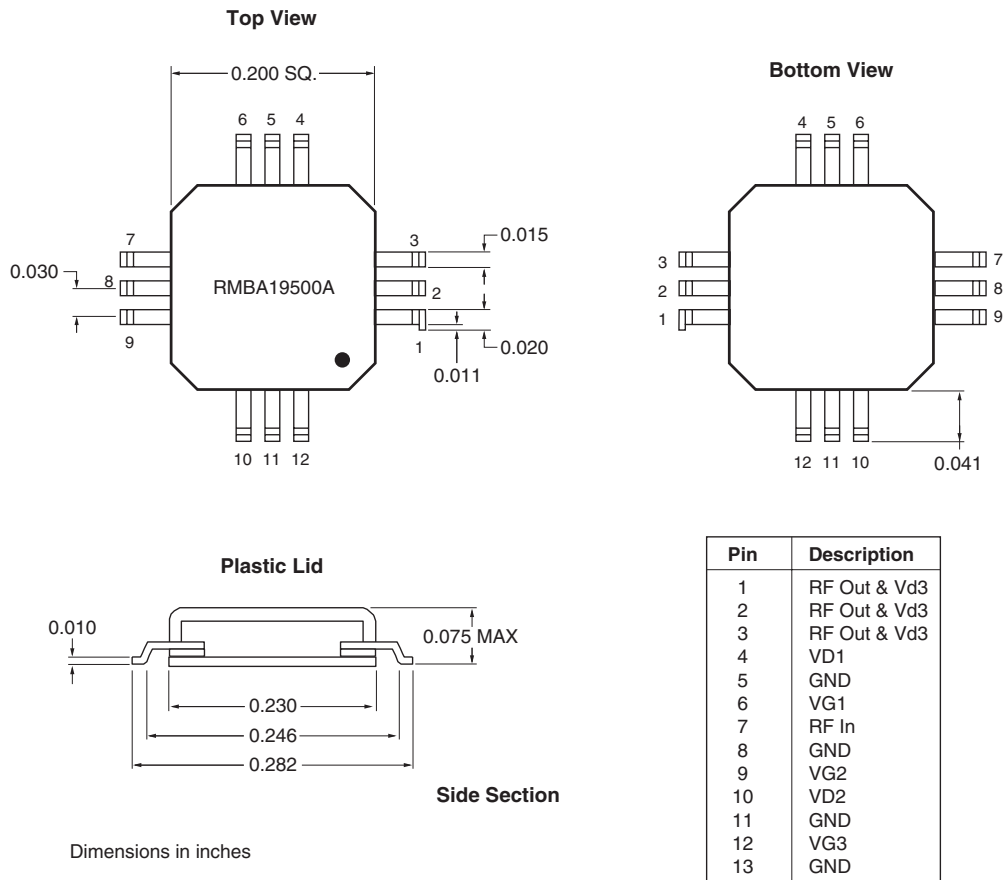
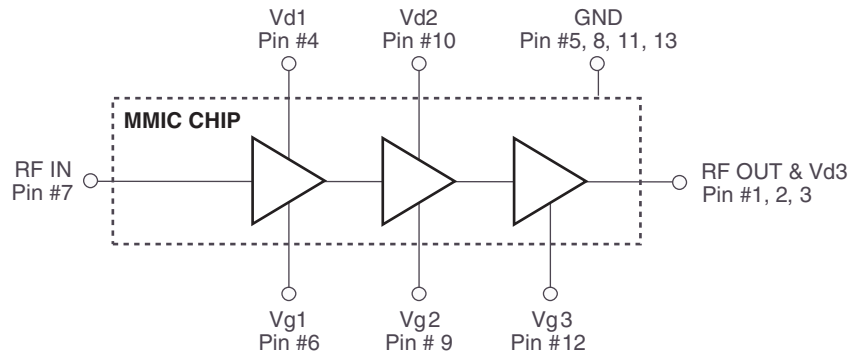
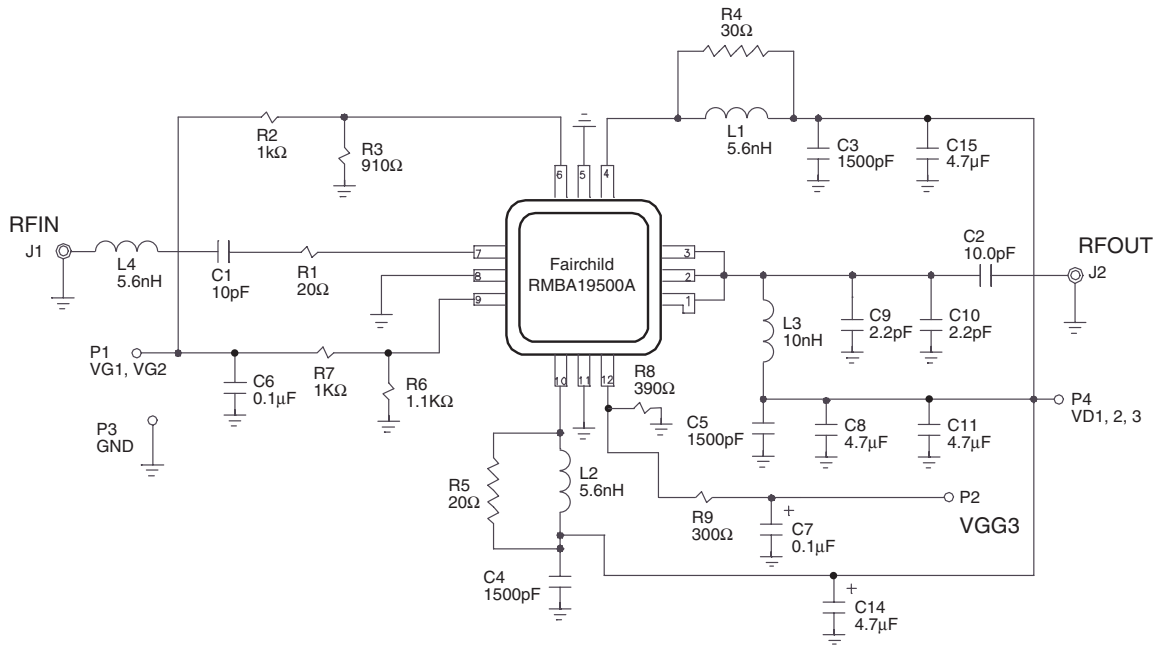
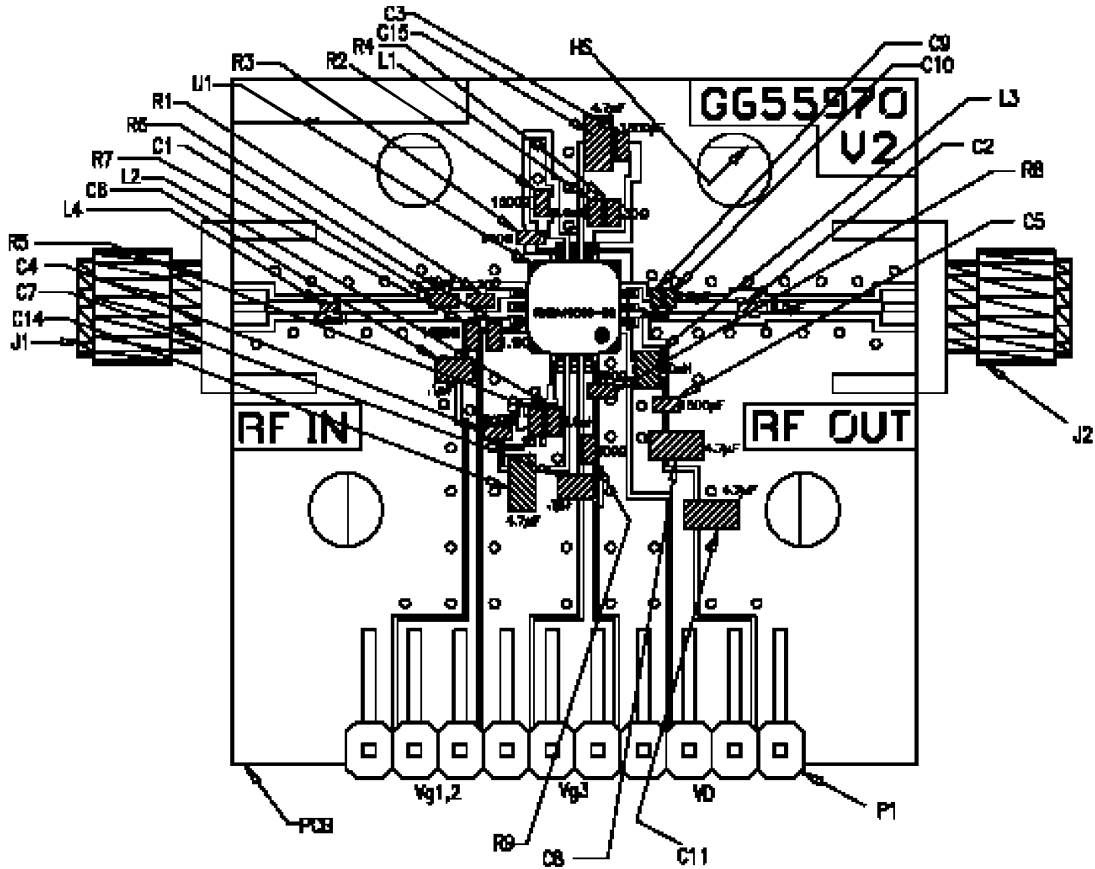

Figure 1. Package Outline and Pin Designations
Figure 2. Functional Block Diagram
Figure 3. Schematic of Application Circuit Showing External Components
Figure 4. Layout of Test Evaluation Board (RMBA19500A-TB, G655971)
The device requires external input and output matching to 50 Ω as shown in Figure 3 and the Parts List.
The following describes a procedure for evaluating the RMBA19500A, a monolithic high efficiency power amplifier, in a surface mount package, designed for use as a driver stage for PCS1900 Base station or as the final output stage for Micro- and Pico-Cell base stations. Figure 1 shows the package outline and the pin designations. Figure 2 shows the functional block diagram of the packaged product. The RMBA19500A requires external passive components for DC bias and RF input and output matching circuits as shown in Figure 3 and the Parts List. A recommended schematic circuit is shown in Figure 3. The gate biases for the three stages of the amplifier may be set by simple resistive voltage dividers. Figure 4 shows a typical layout of an evaluation board, corresponding to the schematic circuits of Figure 3. The following designations should be noted:
- (1) Pin designations are as shown in Figure 2.
- (2) Vg1, Vg2, and Vg3 are the Gate Voltages (negative) applied at the pins of the package.
- (3) Vgg1, 2, and Vgg3 are the negative supply voltages at the evaluation board terminals (Vg1 and Vg2 are tied together).
- (4) Vd1, Vd2, and Vd3 are the Drain Voltages (positive) applied at the pins of the package.
- (5) Vdd is the positive supply voltage at the evaluation board terminal (Vd1, Vd2, and Vd3 are tied together).